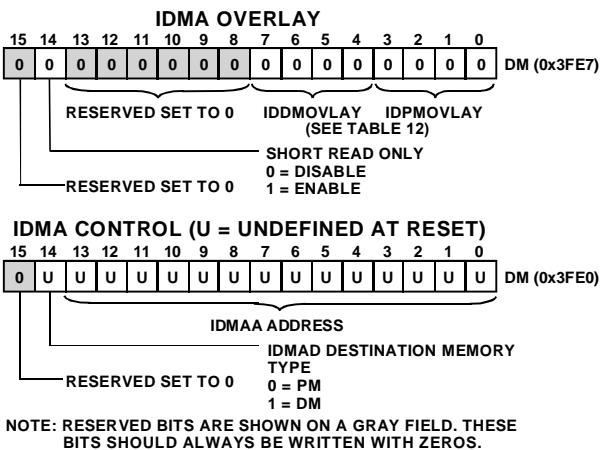

Figure 13. IDMA OVLAY/Control Registers
Through the IDMAA register, the DSP can also specify the starting address and data format for DMA operation. Asserting the IDMA port select (IS) and address latch enable (IAL) directs the ADSP-218xN to write the address onto the IAD14–0 bus into the IDMA Control Register (Figure 13). If Bit 15 is set to 0, IDMA latches the address. If Bit 15 is set to 1, IDMA latches into the OVLAY register. This register, also shown in Figure 13, is memory-mapped at address DM (0x3FE0). Note that the latched address (IDMAA) cannot be read back by the host.